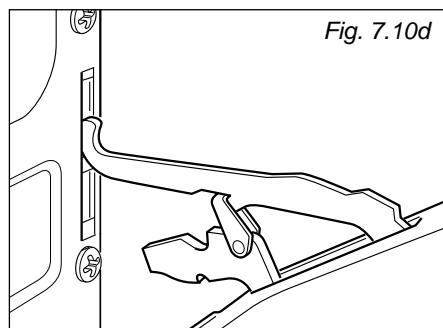

Fig. 7.10d
- Withdraw the upper hinge pins from their location (fig. 7.10D).